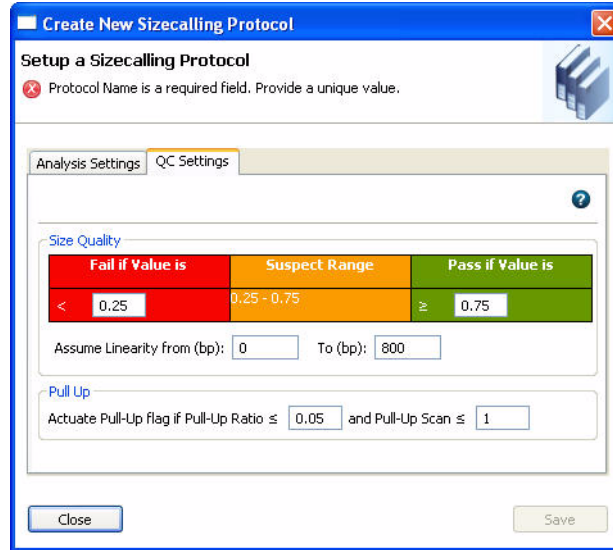

Figure 27 Sizecalling Protocol – QC Settings
4. Click **QC Settings**. In the QC Settings tab of the Create New Sizecalling Protocol dialog box (Figure 27 on page 183), then specify settings and Table 15 on page 183).